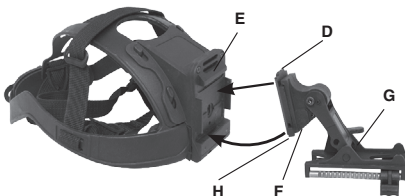

FIGURE 3-2
- 3) Insert the top edge of the mount (D) under the keeper (E) on the head/helmet mount bracket and rotate downward until the latch (F) engages. To release the mount (G) from the helmet bracket, press the release (H) and pull forward and down (Figure 3-2).